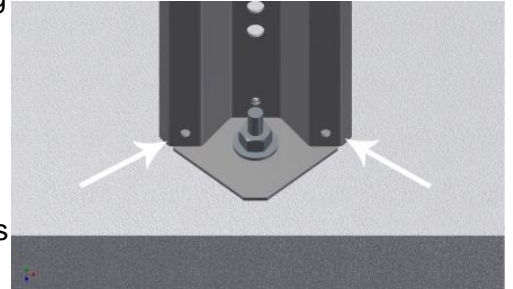

Figure 1: Remove bolts from bin leg
1. Remove all bolts connecting the leg to the footpad. Loosen the original anchor bolt but leave it intact at the bottom of the footpad. The footpad can and should be removed if it is binding or interfering with lifting the leg. (Figure 1)